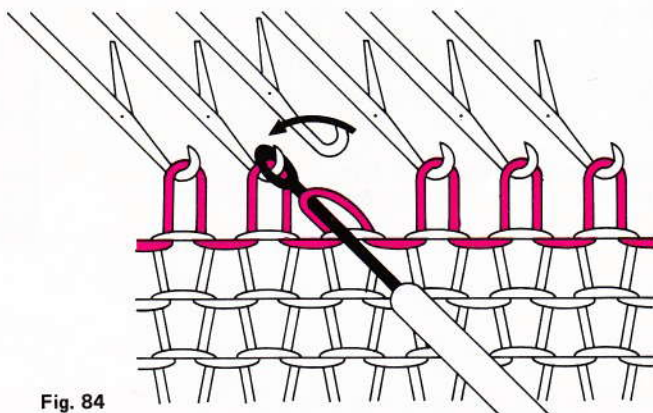

Fig. 84
- Lift the transfer tool off the needle and replace onto the hook of the adjacent needle. Hold the work down with your left hand and lift the handle of the transfer tool until the stitch slips into the hook of the needle (fig. 84).